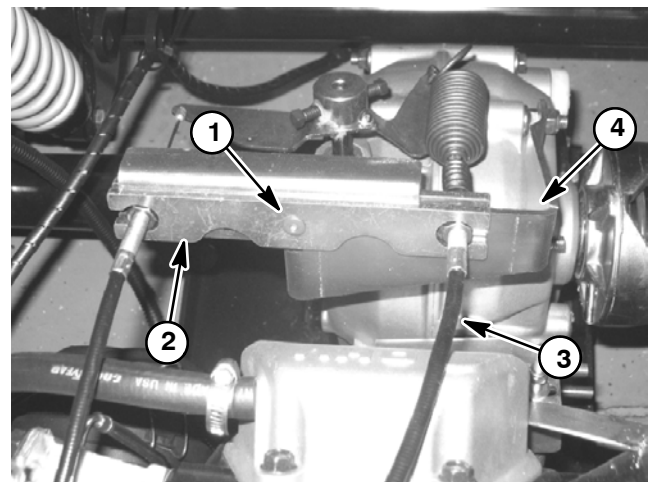

Figure 8
6. If ground speed adjustment is necessary, drill out anodized rivet and retain anti-tamper bracket for reinstallation (Fig. 8).
7. Adjust throttle cable (accelerator pedal to transaxle) at the cable bracket until the correct driven clutch RPM is obtained with the accelerator pedal fully to the floor (Fig. 8).
8. Install anti-tamper bracket to the cable bracket using a new anodized rivet (Toro P/N 99-7122) (Fig. 8).